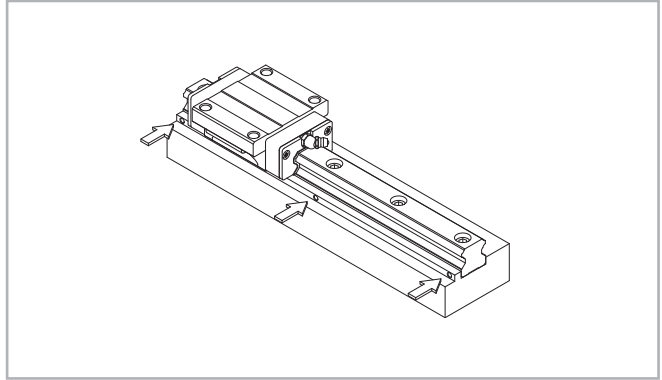

Fig. 58
(3) Tighten the thrust bolts on the guide rail until there is close contact on the side stop surface (see fig. 58).